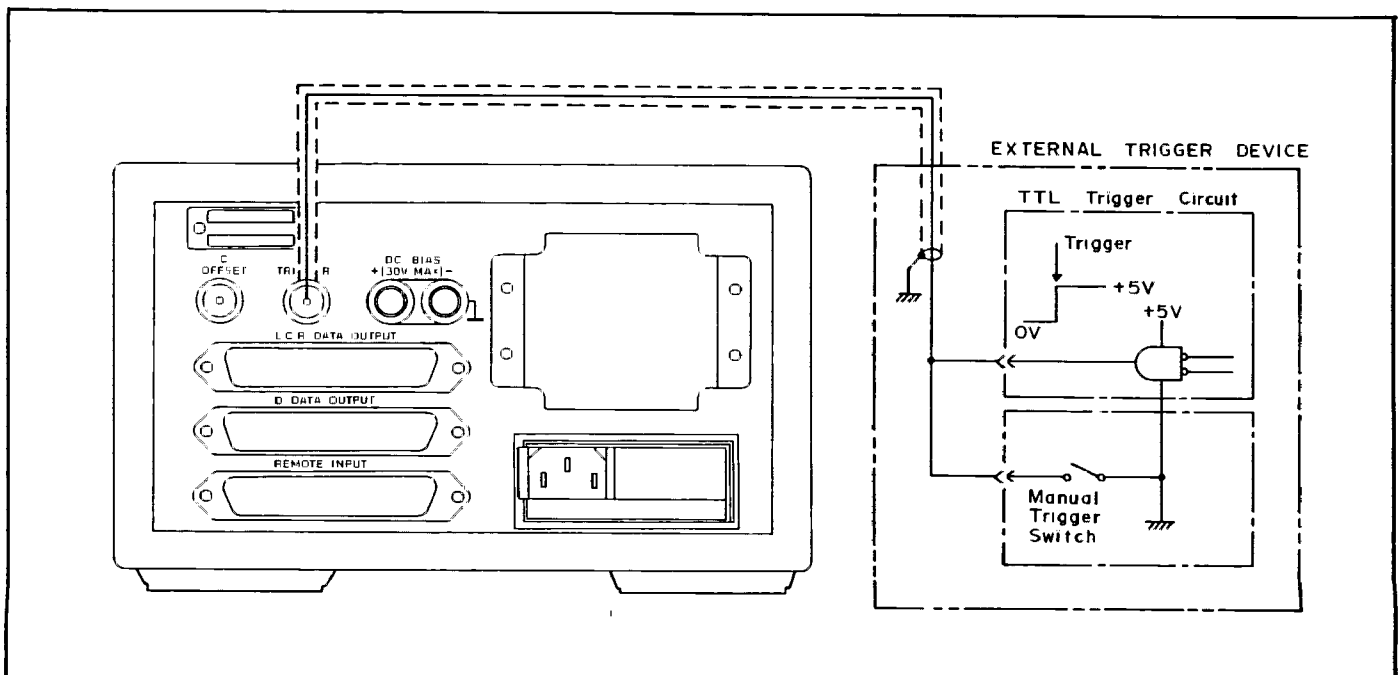

Figure 3-11. External Trigger Circuits.
- c. Set TRIGGER switch to EXT and use MANUAL switch for manual triggering. External trigger at rear panel connector may also be used. See Figure 3-11 for reference. It is recommended that RANGE HOLD be set to ON when measuring multiple samples whose values are about the same.
3-28. Figure 3-11 illustrates an example of a trigger circuit device for triggering the 4261A externally via the external triggering connector on the 4261A rear panel. In addition, both manual trigger (by MANUAL pushbutton) and electronic trigger (by TTL level trigger circuit) are also useable. The unit is set for manual triggering by switching TRIGGER switch from INT to EXT (manual) position. In the EXT trigger mode, the 4261A may be triggered by a TTL level signal that is transmitted from low (+0V) to high (+5V) state by an external trigger circuit.